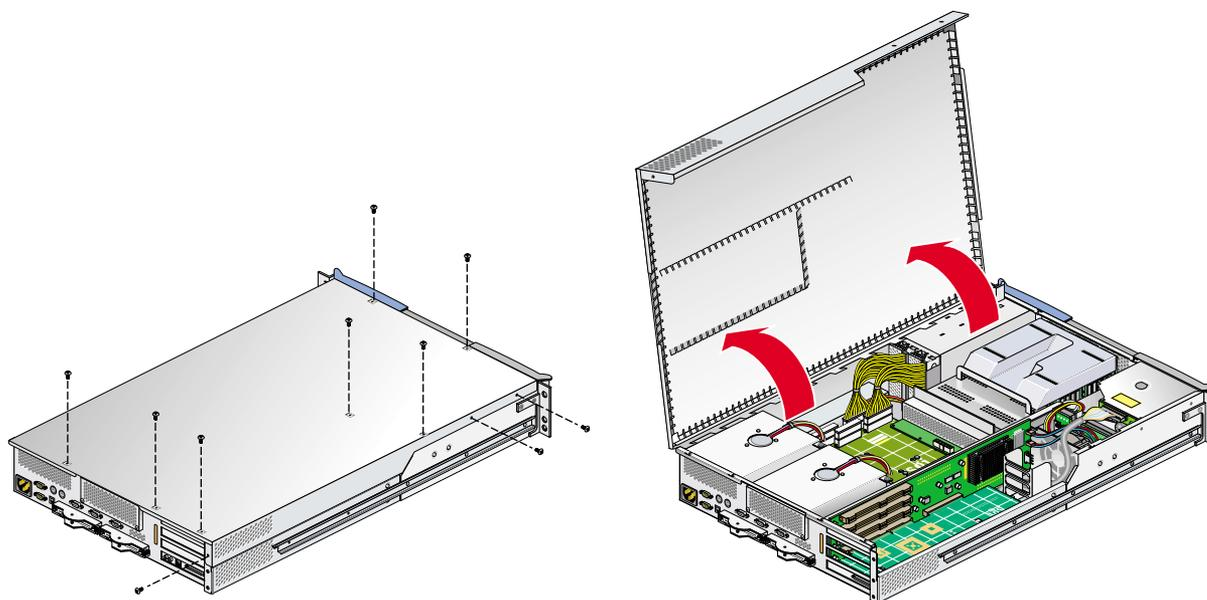

Figure 7-16 Opening Module Cover to Install DIMMs
6. To access the DIMMs, remove the ten Phillips screws, as shown in Figure 7-16 and lift open the hinged cover.